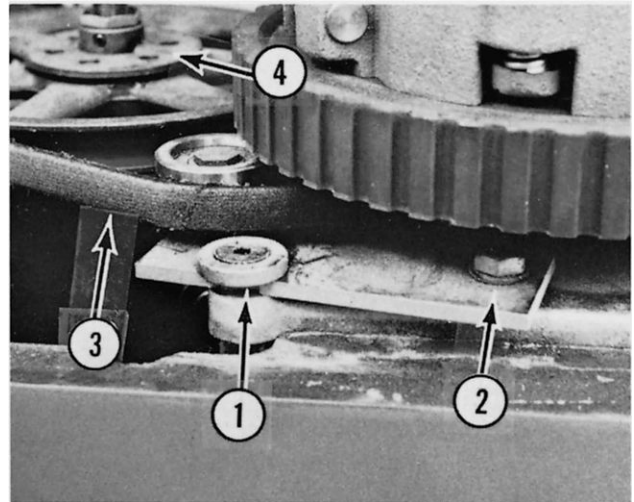

FIG. 12-2
D. Loosen the holding screw (1, Fig. 12-2) and the pivot screw (2, Fig. 12-2). Release the belt tension.
E. Remove the "V" belt (3, Fig. 12-2).